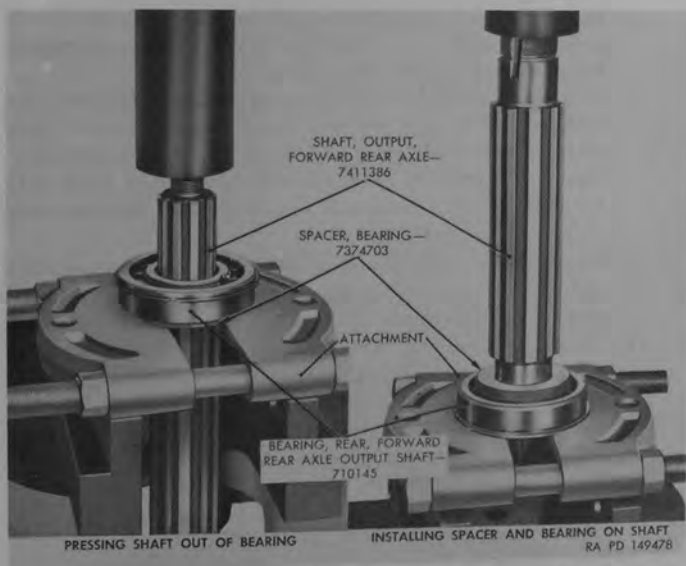

Figure 73. Use of attachment 41-A-345-328 (part of puller set 41-P-2905-60) for removing and installing rear bearing on forward rear axle output shaft.
on output shaft and support shaft and bearing assembly in arbor press as shown in figure 73. Press shaft out of bearing and remove spacer from shaft.
- (1) Adjust opening in attachment 41-A-345-328 (part of puller set 41-P-2905-60) to support output shaft rear bearing at inner race; then place bearing and spacer and attachment on arbor press in position shown in right view of figure 73.
- (2) Insert splined end of output shaft downward through spacer and bearing; then press shaft through bearing until shaft shoulder bottoms on spacer.
- (1) Remove Woodruff key from idler shaft; then position idler shaft and bearing assembly in arbor press with bearing spacer supported on attachment 41-A-345-328 (part of puller set 41-P-2905-60) in same manner as shown in figure 73.
- (2) Press idler shaft out of bearing and remove spacer from idler shaft.
- (1) Support idler shaft rear bearing (N, fig. 76) on attachment 41-A-345-328 (part of puller set 41-P-2905-60) in arbor press. Lay bearing spacer (G, fig. 76) on bearing and insert rear end of idler shaft (K, fig. 76) through spacer and into bearing in same manner as illustrated in right view of figure 73.